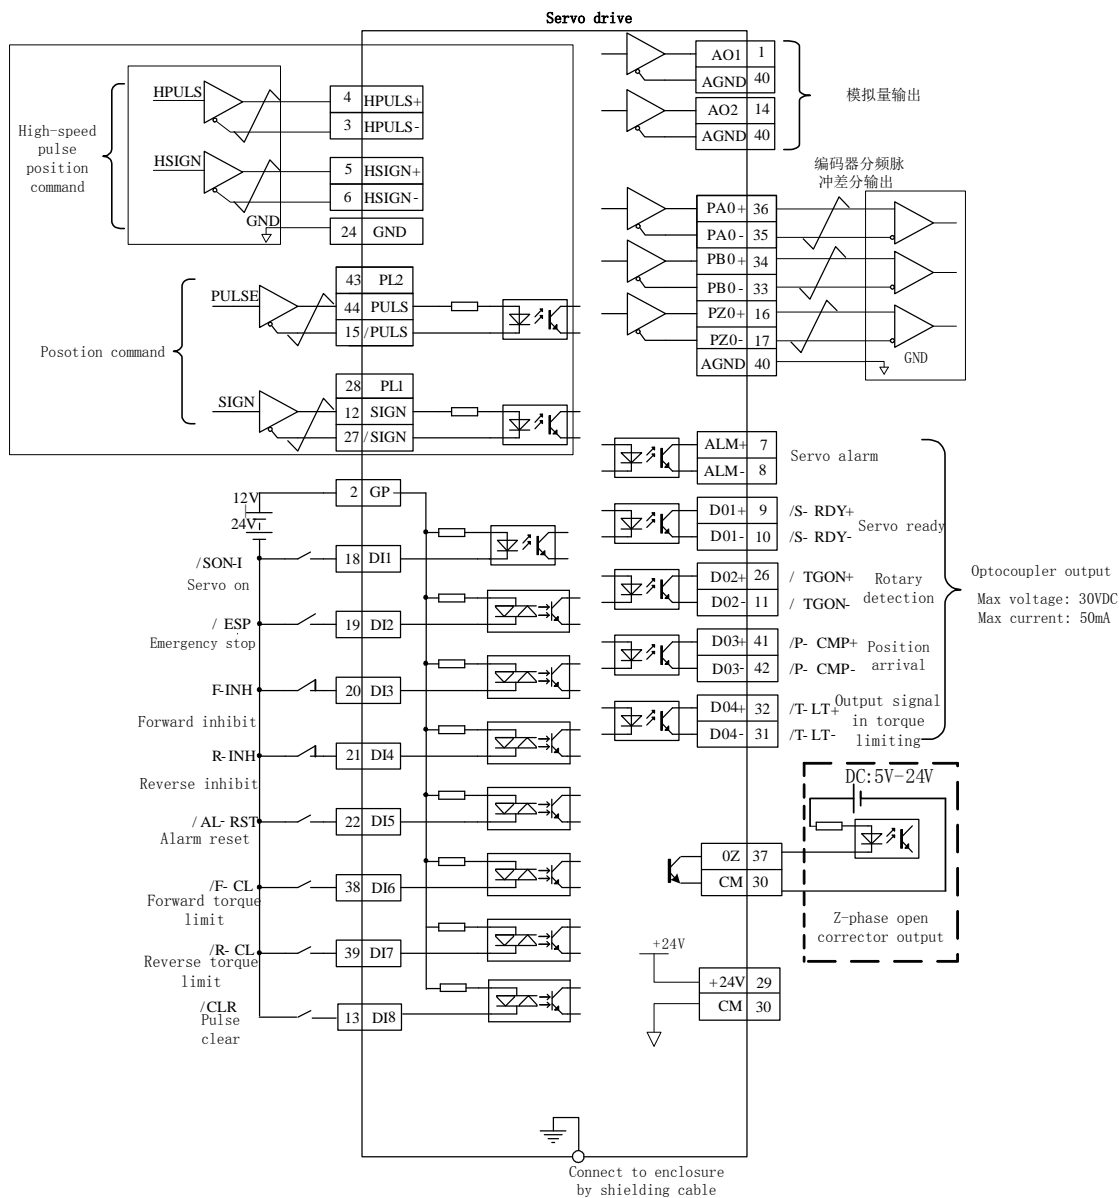
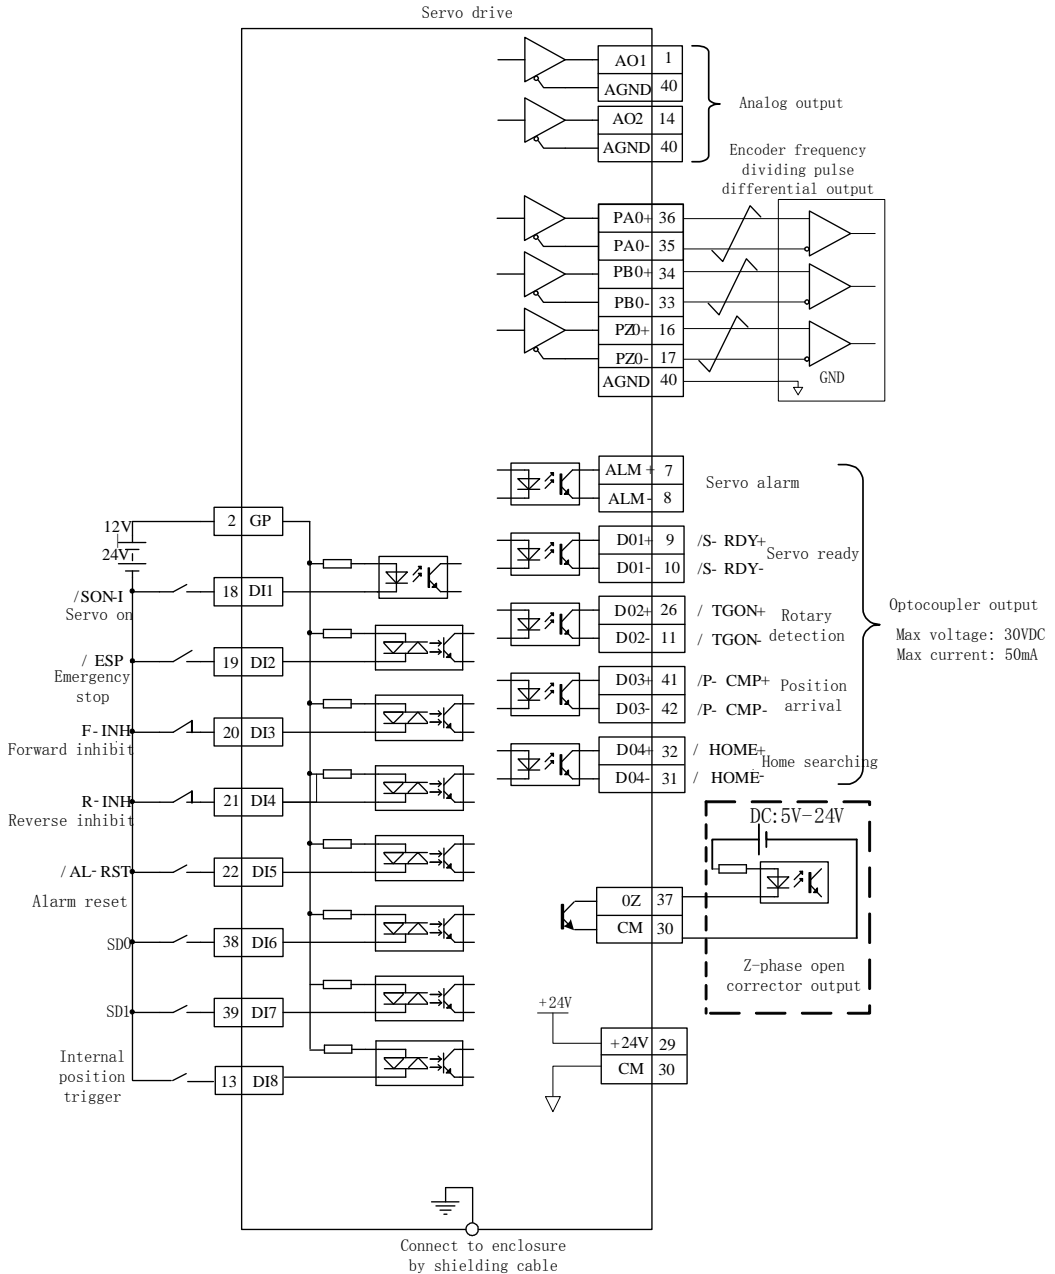

Fig 6.4.2 Wiring diagram of position pulse mode
Fig 6.4.6 Wiring of internal position pulse mode
- ★ Refer to Fig 6.4.2 and Fig 6.4.6 to connect DI/DO.